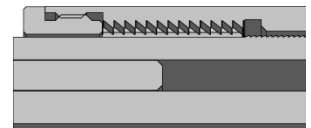

Fig. 11
K-11.5) Install lock ring (3) onto setting sleeve (27) until outer threads contact threads in setting chamber (30). Rotate setting chamber (30) to thread lock ring (3) into setting chamber leaving enough room for setting chamber cap (22) to be installed (Fig. 11).